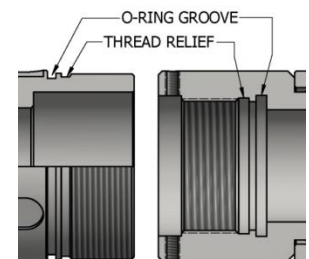

Fig. 2
- CAUTION₅**: To ensure tool operates properly, install o-rings in o-ring grooves **NOT** thread reliefs unless stated otherwise (Fig. 2).